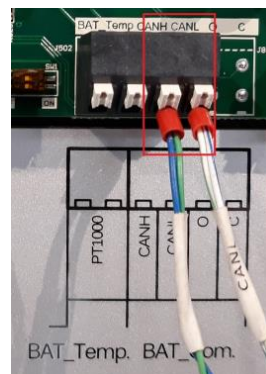

Figure 3 Insert CANH and CANL pins to SH5K+ circuit board
**Step 2** Plug CANH into the CANH port and plug CANL into the CANL port of the configuration circuit board of SH5K+ / SH5K-20 (Figure 3).